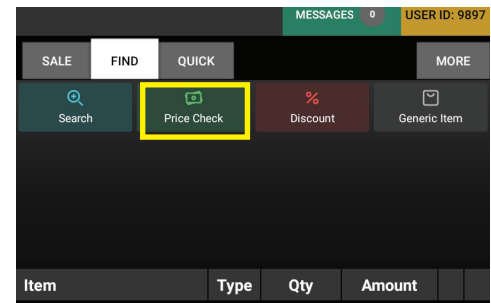

Figure 41
- Select Price Check (Figure 41).